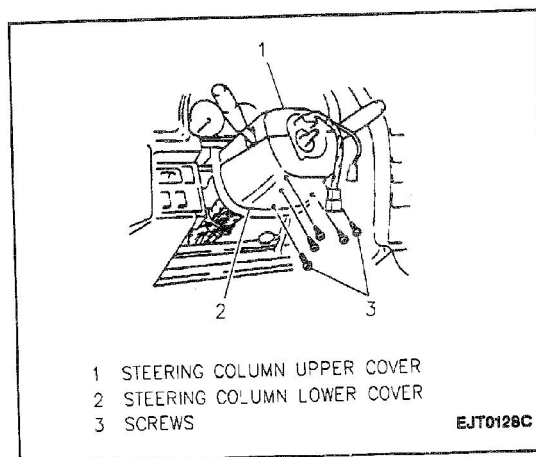

Figure 7—Steering Column Upper and Lower Covers
Figures 7 and 8
3. Five screws and steering column upper and lower covers (Figure 7).
2. Five screws and steering column upper and lower covers (Figure 7).